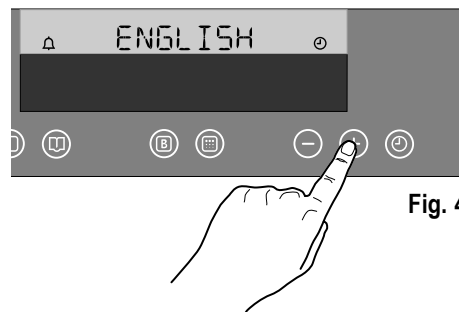

Fig. 4
2. Within 5 seconds, touch control "+" to select your language (Fig. 4).